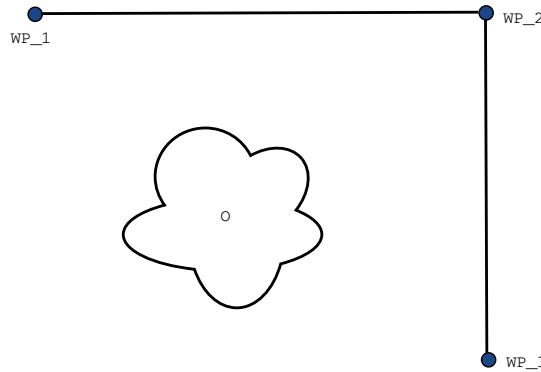

Figure 16.2: WP_1: initial position, WP_2: via point, WP_3: pick up position, O: obstacle.
Example Consider a pick and place application as an example (see figure 16.2), where the robot is currently at Waypoint 1 (WP_1), and it needs to pick up an object at Waypoint 3 (WP_3). To avoid collisions with the object and other obstacles (O), the robot must approach WP_3 in the direction coming from Waypoint 2 (WP_2). So three waypoints are introduced to create a path that fulfills the requirements.